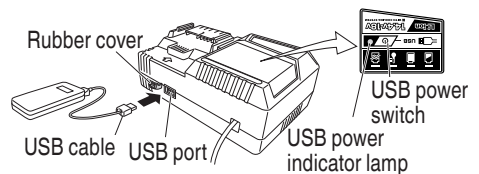

Fig.10
- (2) Turn the USB power switch ON (Fig. 10)
- (3) Connect the USB cable. (Fig. 10)
- (4) When charging is completed
- Turn the USB power switch OFF and unplug the power cord from the electrical outlet. (Fig. 10)